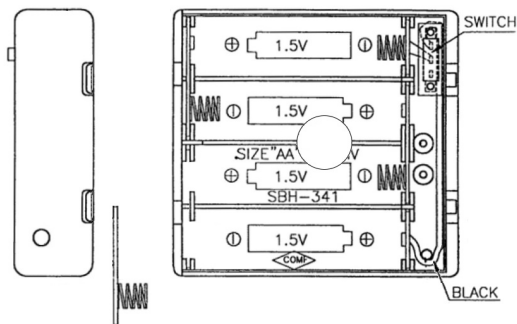

Fig 2C - Wiring diagram
- 6 - Replace the connector taking care that it is correctly orientated. [Fig 2C]